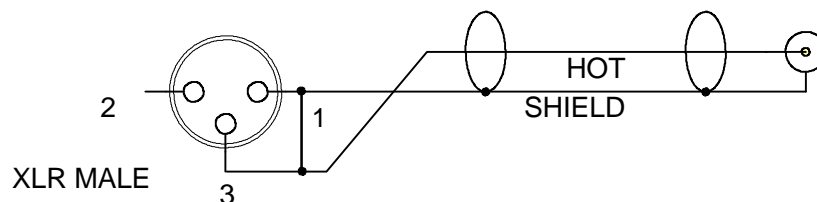

Figure 6. UNBALANCED INPUT CABLE
- ii. Connect the audio generator to the input of channel 1. Set the output level to approximately -20dBu @1KHz. If the generator has an unbalanced output refer to Figure 6 below for termination information.